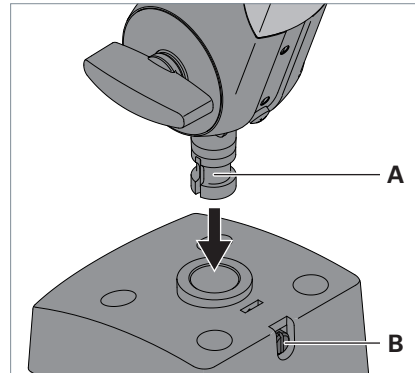

Fig. 2: Mounting the light to the fastening element.
- ▶ Insert the stud **A** on the light column into the opening of the fastening element, see Fig. 2.
- ▶ Tighten the screw **B** to fix the column, see Fig. 2.